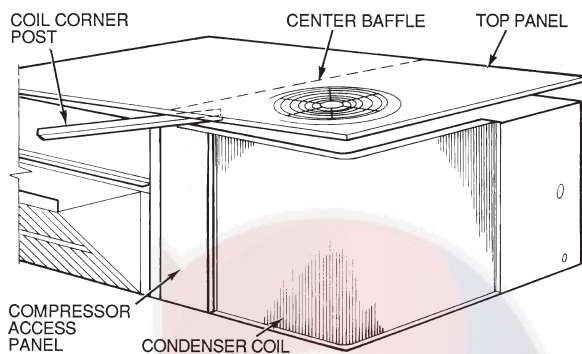

Fig. 13 — Propping Up Top Panel
5. Hold the top pan open by placing the coil corner post between the top panel and center post. See Fig. 13.